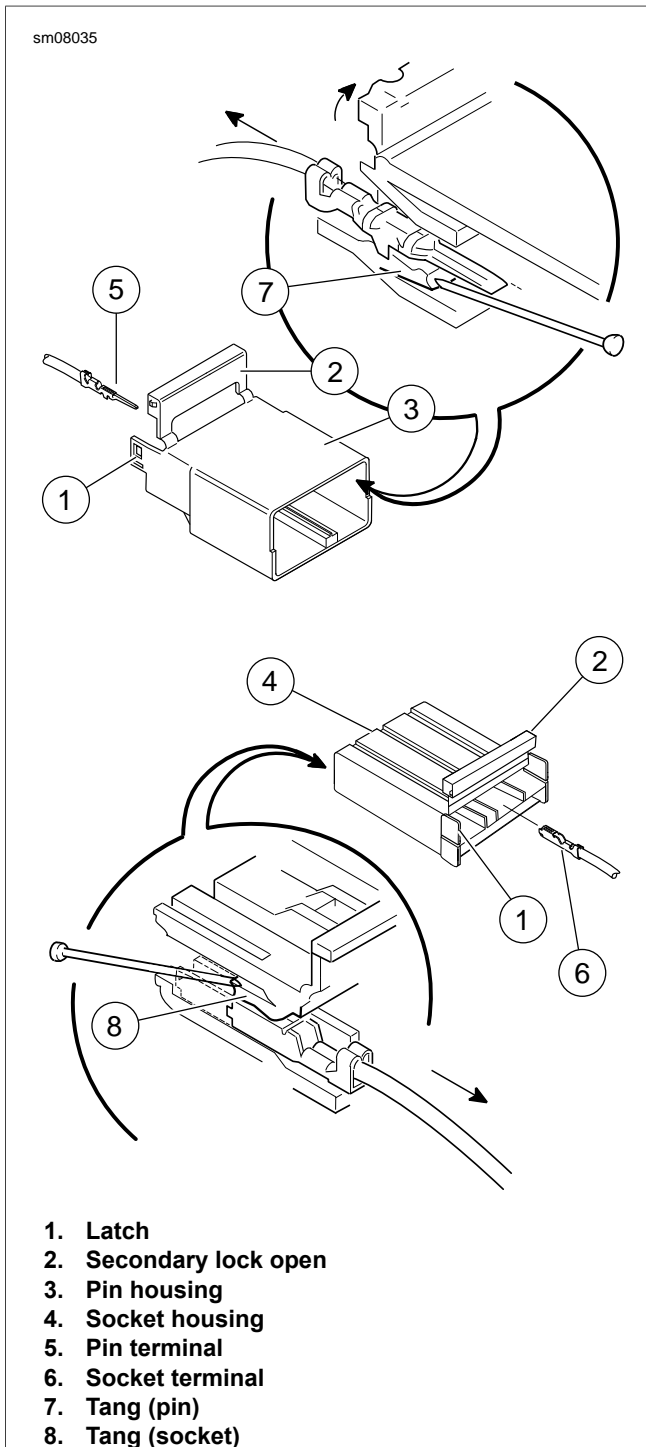

Figure A-60. Tyco 040 Multilock Unsealed Connector:
1. See Figure A-60. Bend back the latch (1) to free one end of secondary lock (2) then repeat on the opposite end. Hinge the secondary lock outward.
- a. **Socket:** Lift the socket tang (8) up.
- b. **Pin:** Press the pin tang (7) down.